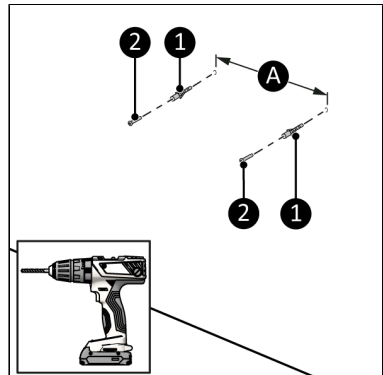

Figure 24.
1. Drill two 8 mm holes horizontally apart from each other at the required location with a minimum distance of (Figure 24, pos. A):
2. Insert the wall plugs into the holes (Figure 24, pos. 1).
3. Firmly screw the screws (Figure 24, pos. 2) into the wall plugs using a Philips screwdriver.